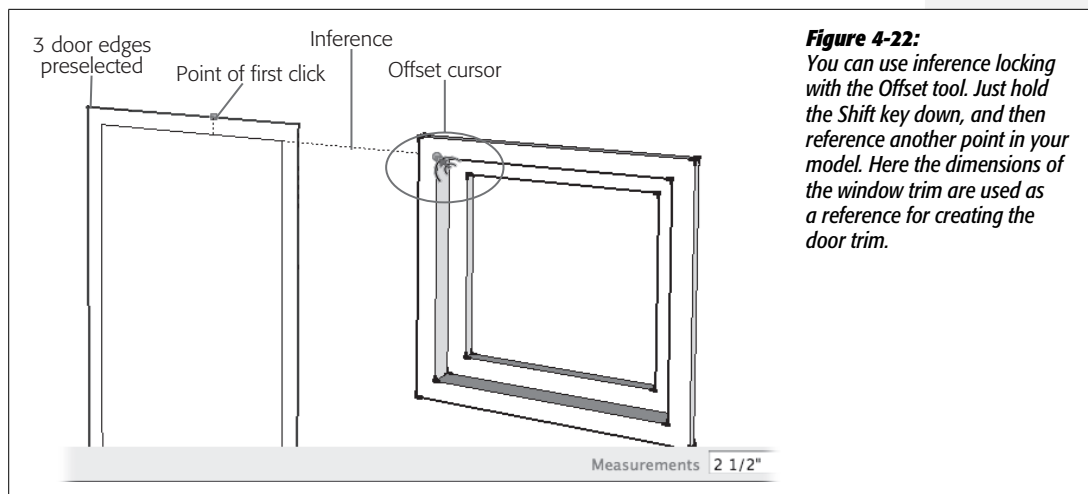

Figure 4-22:
4. **When you see a tooltip that says "Endpoint" (as shown in Figure 4-22), click the corner.**